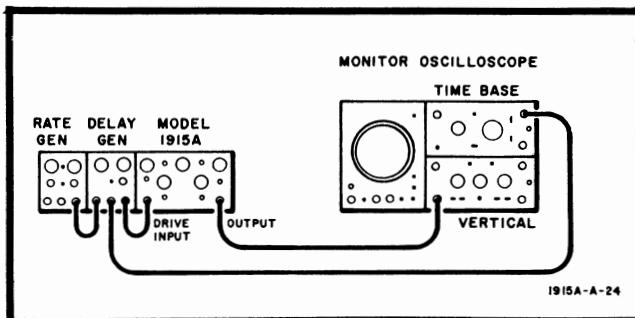

Figure 5-10. Adjustment Test Setup
a. Connect equipment as shown in Figure 5-10.